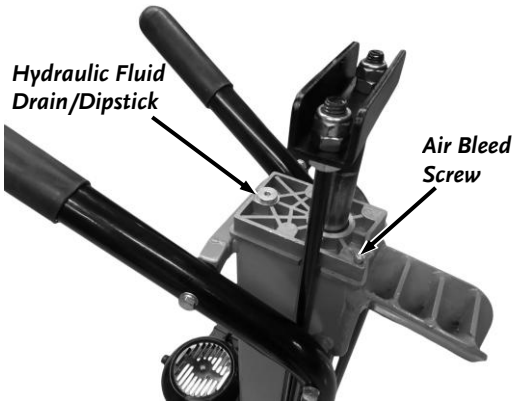

Figure 13
2. Tip the machine up vertical on the Wheels (you may need to have someone support the splitter to prevent tipping over). Clean the area around the Hydraulic Fluid Fill/Drain Port (**Figure 13**) and then, using a 6mm Allen Wrench, unscrew and remove the Dipstick located in the Hydraulic Fluid Fill/Drain Port.